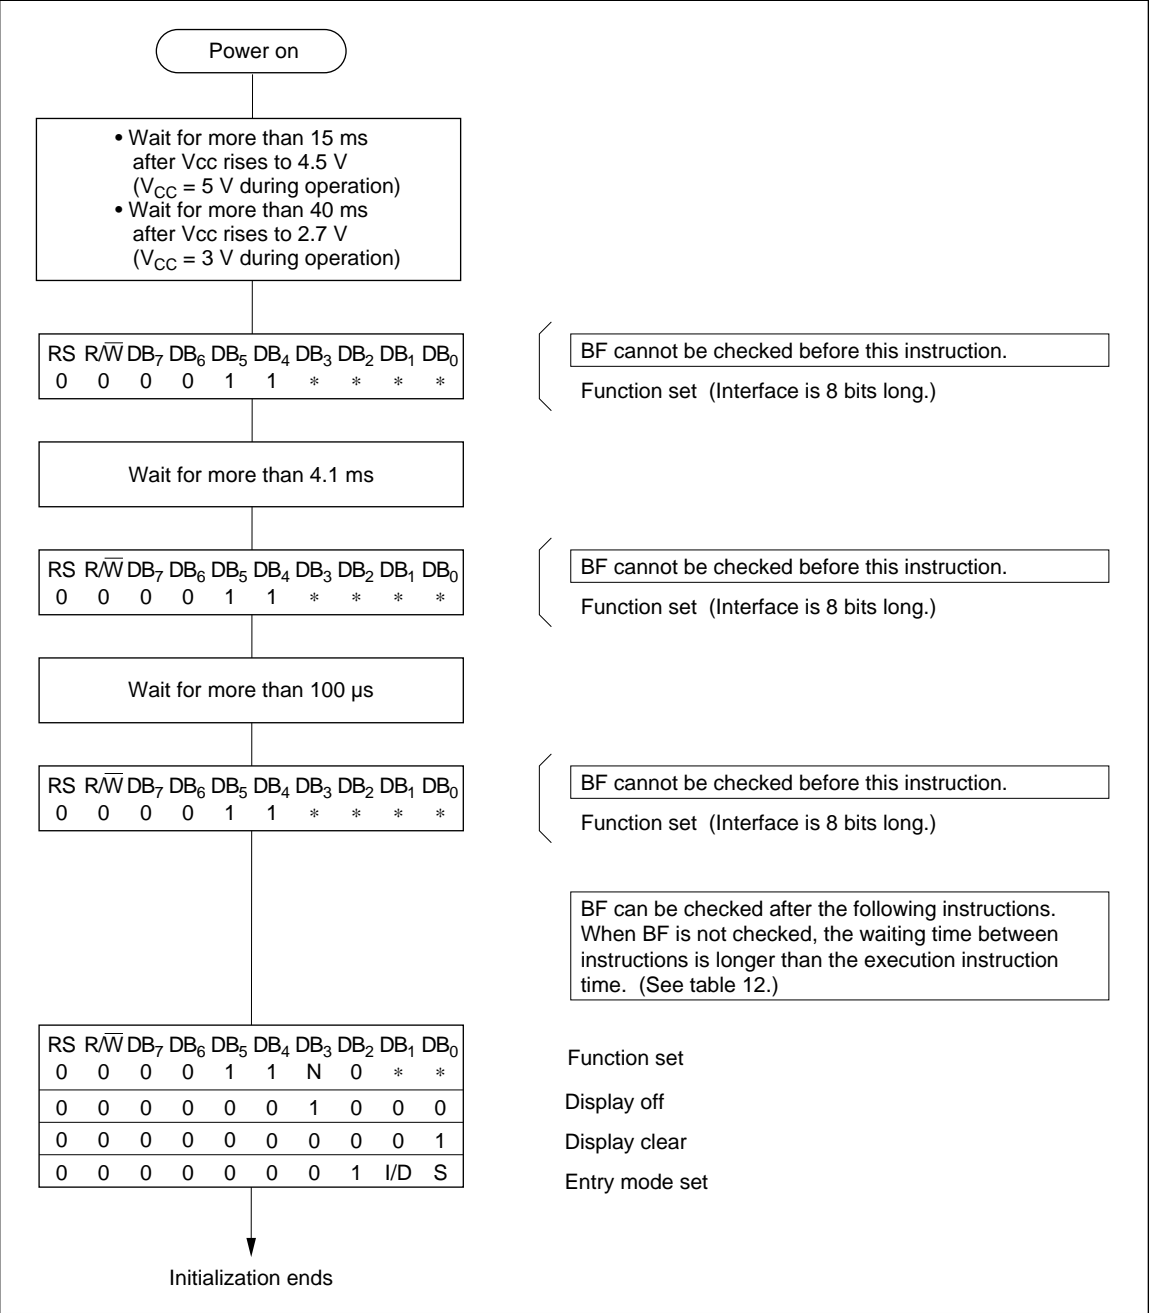

Figure 31 Initializing Flow of 8-Bit Interface
- Initializing when a length of interface is 8-bit system. (See figure 31.)